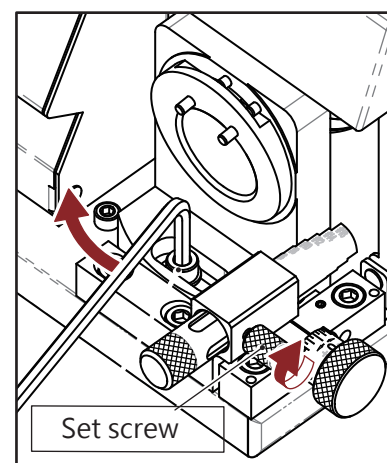

Fig. 5-4
5. After the adjustment, please tighten the set screw to lock the grinding shelf and positioning gauge. (Fig. 5-4)